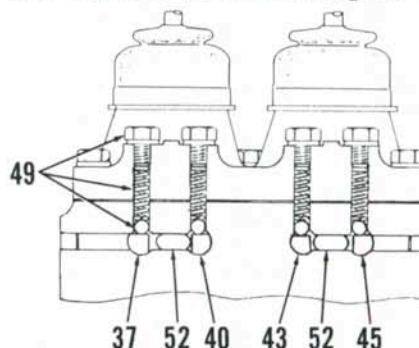

Fig. 196—Cross-section of shift cover and housing showing detent assemblies (49), interlock plungers (52) and related parts. Refer to Fig. 197 for legend.
Disconnect foot throttle control rod and brake control rods. Remove both step plates. On models with front wheel drive, unbolt and remove front wheel drive gear case from rear axle center housing. On all models, remove brake cross shaft, brake pedals and clutch pedal as an assembly. Disconnect hydraulic suction line, pressure lines and return line. Remove shift detent plugs, springs and balls (49—Fig. 196) from transmission shift cover. Remove shift cover and center housing front cover plate.
41) and bosses (39 and 42). Remove magnets (46) from main shift rails. Unbolt retainer (14) from rear of transmission, then withdraw range mainshaft (12) and bearing (13) rearward while removing gears (10 and 11). Slide main shift rails (43 and 45) out of transmission housing while withdrawing shifter forks (44 and 36) and bosses. Note that it may be necessary to rotate main shift rails to move interlock pins (52—Fig. 196 and 197) out of notches in rails if rails do not slide out easily.